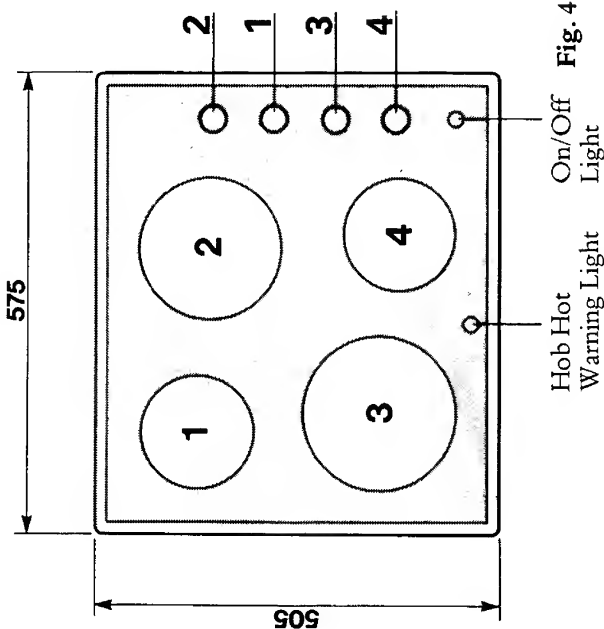
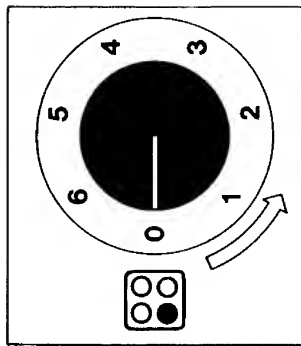

Fig. 4
Fig. 5
The equipment has four cooking areas as shown in Fig. 4. The positions are clearly indicated on the hob by circles. Heating only occurs within the circles marked on the hob.
The relevant control for each heating area is shown in Fig. 4. Each control can be used to select one of six temperature settings from a minimum at position 1 to a maximum at position 6 (see Fig. 5). For normal cooking, after having placed the pan on the required hob position, set the control knob to maximum (6); wait until boiling point is reached, then set the knob to a lower position as required. See chart below for guide to control settings.